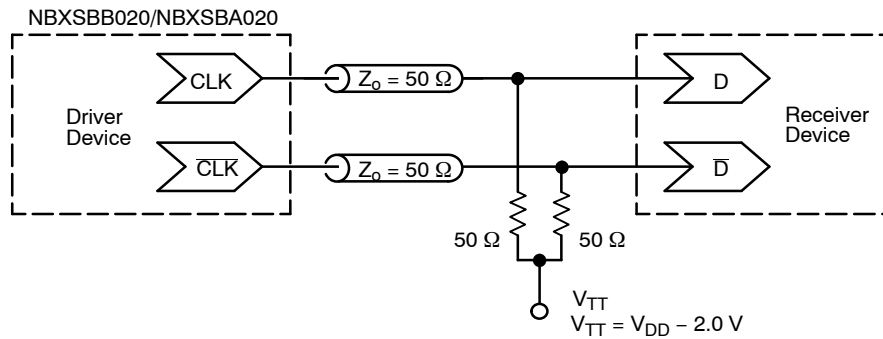

Figure 4. Typical Termination for Output Driver and Device Evaluation
2. Measurement taken with outputs terminated with 50 ohm to $V_{DD} - 2 \text{ V}$. See Figure 4.
3. Measurement taken with outputs terminated with 50 ohm to $V_{DD}-2 \text{ V}$. See Figure 4.